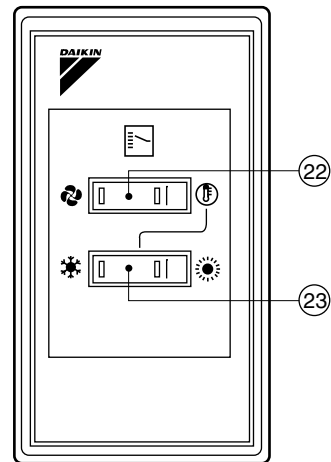

Fig. 2
- Fig. 2 shows this remote controller can be used in conjunction with the one provided with the VRV system.